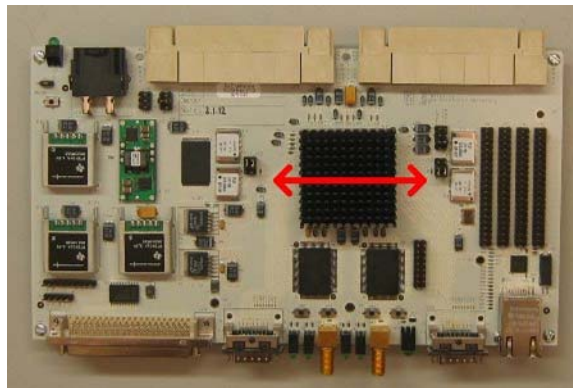

Figure 5: IBOB heatsink alignment.
3. Attach heatsink—it has double sticky side tape. Primary “channel” or “trough” on heatsink should be parallel to length of board (Figure 5).